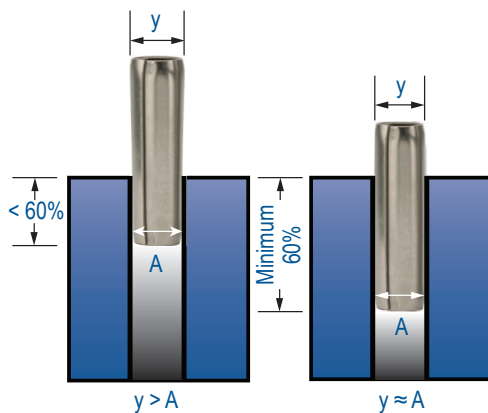

Figure 1: This diagram demonstrates proper installation depth. When a Coiled Pin is installed less than 60% of its overall length two conditions may occur:
- 2) The engagement length of the Coiled Pin in the component providing primary retention must be no less than 60% of the pin's overall length. The remaining protruding length will align with the mating component. Increasing the initial length of engagement is recommended in thru-hole applications; however, the Coiled Pin still has to protrude in order to align the mating component. (Figure 1)